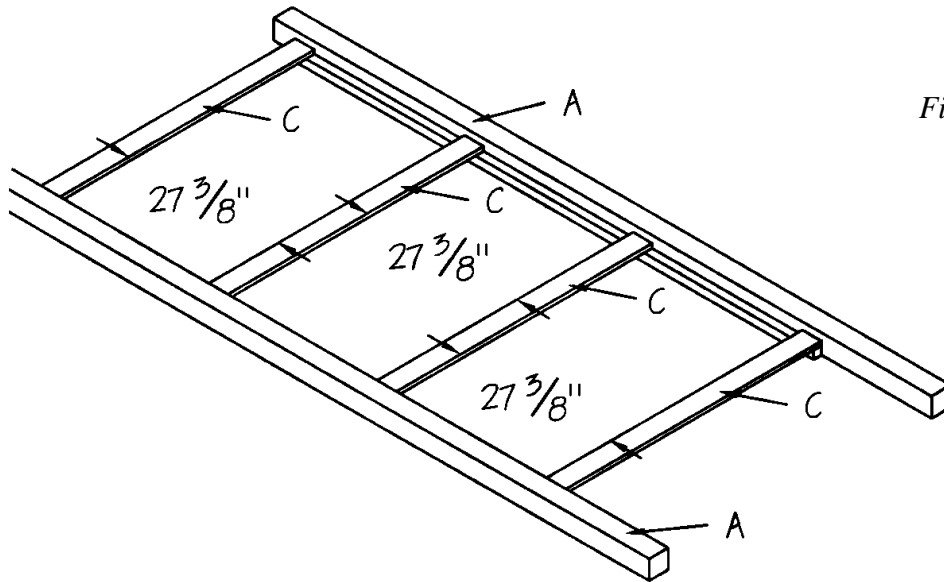

Figure 2
4. Repeat Step 3 to assemble a mirror image, using the remaining Side (A) and Side Support (B).
5. Cut four Connectors (C) from 1 x 4 pine, each measuring 48 inches.
6. Position the side assemblies on a level surface, 45 inches apart and parallel to each other, with the side Supports (B) facing each other.
7. Place one Connector (C) over the Side supports (B), flush with the upper ends of the topmost Side Support (B), as shown in *Figure 2*. Apply glue to the meeting surfaces, and screw through the Connector (C) into the side Supports (B), using two 1-5/8" wood screws on each joint.
- Repeat Step 7 three times to attach the remaining Connectors (C), one flush with the lower end of the Side Supports (B), and the two remaining Connectors (C) in the center of the assembly, 27-3/8" apart.